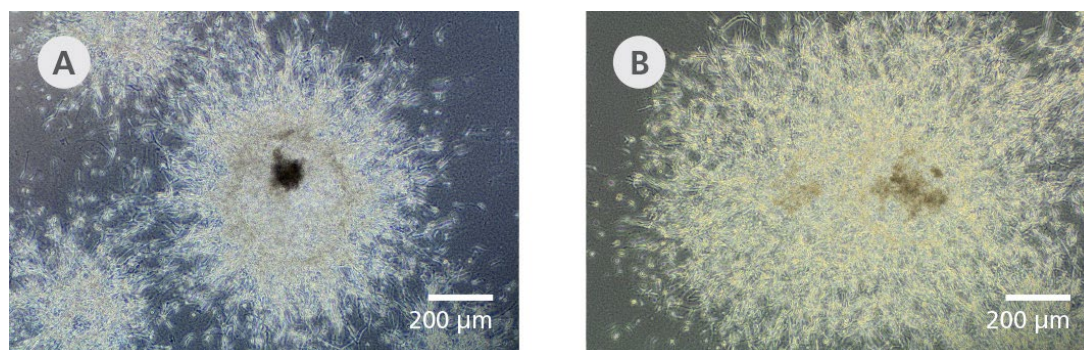

Figure 4. Blood Vessel Networks Sprouting on Day 11 in STEMdiff™ Blood Vessel Organoid Maturation Medium
3. Observe vascular networks sprouting under a microscope. Vascular networks should have extensive radial sprouting, and little to no denseness in the center of the organoids (see Figure 4). Organoids should be ~500 µm to 1 mm in diameter. Proceed to section 3.7, using only organoids with the desired morphology.